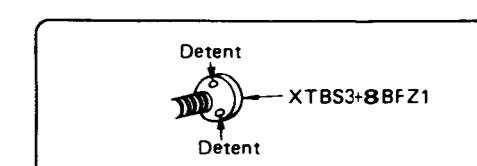

Fig. 18
Note: Setscrews ⑩ ~ ⑬ are screws with detents (Part No.: XTBS3+8BFZ1) as shown in Fig. 18 in order to make the contact of electric circuit perfect. Take care not to mix up these screws with other screws.